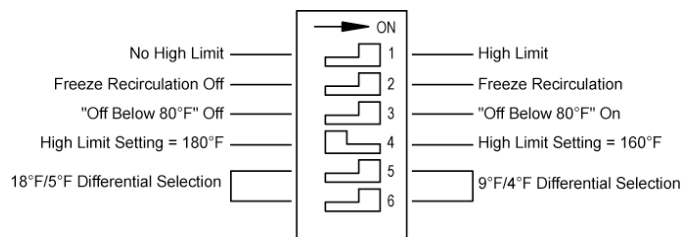

FIGURE 2. DIP SWITCH SETTINGS
*See DIP Switch Designations in figure 2.
This test verifies the BIT settings are working correctly. The BIT switches (figure 2) for a particular function must be on to test for that function.